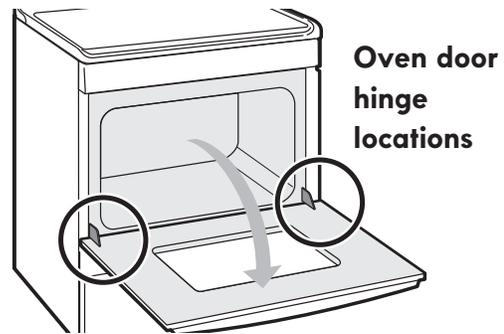

Figure 29: Oven hinge locations
1. Open oven door completely (horizontal with floor - Figure 29).
3. Fully open the oven door (horizontal with floor - Figure 29).